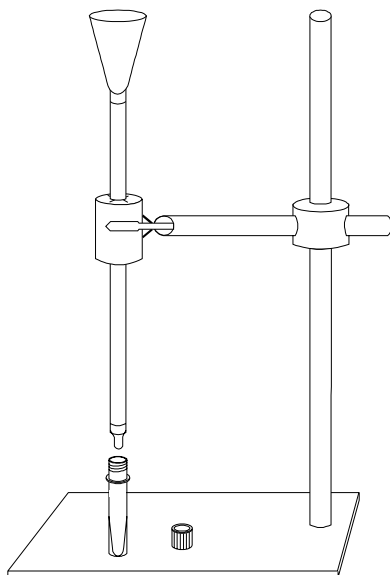

Figure 2. Column assembly.
The Alexa Fluor 555 Protein Labeling Kit contains everything that is required to perform three separate labeling reactions and to purify the resulting conjugates. The Alexa Fluor 555 reactive dye has a succinimidyl ester moiety that reacts efficiently with primary amines of proteins to form stable dye–protein conjugates (Figure 2). Each of the three vials of reactive dye provided in the kit is sufficient for labeling ~ 1 mg of an IgG antibody, although other proteins can also be labeled. For labeling smaller amounts of proteins (~ 100 μg), we recommend our Alexa Fluor 555 Monoclonal Antibody Labeling Kit (A20187).
2.1 Assemble the column and position it upright (see Figure 2): Attach a funnel to the top of a column. Gently insert the column through the X-cut in one of the provided foam holders. Using the foam holder, secure the column with a clamp to a ringstand. Carefully remove the cap from the bottom of the column.